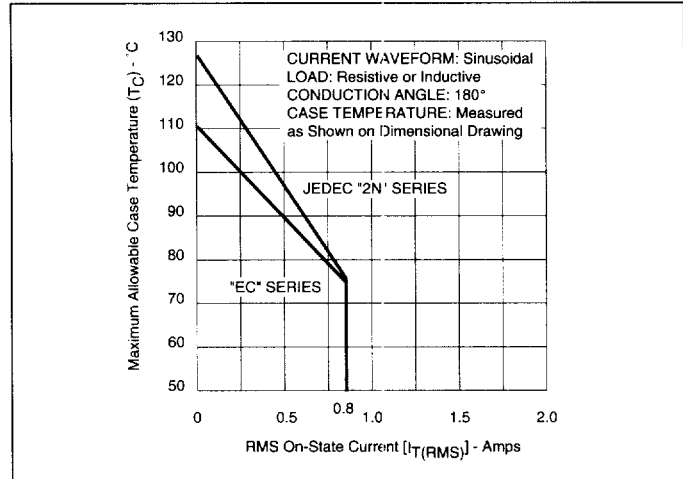
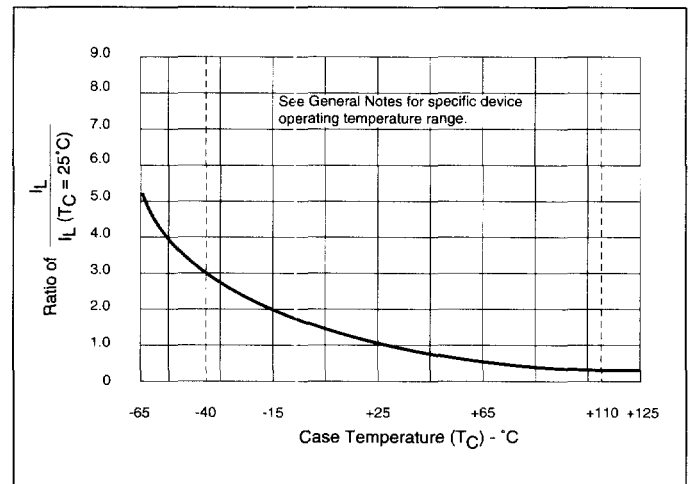

Figure 5.1 Maximum Allowable Case Temperature vs RMS On-State Current (JEDEC "2N" Series and "EC" Series)
Figure 5.18 Normalized DC Latching Current vs Case Temperature
- (1) See Figures 5.1 through 5.9 for current ratings at specified operating case temperatures.
- (12) See Figures 5.1 through 5.9 for maximum allowable case temperature at maximum rated current.
- (13) $I_{GT} = 500\mu A$ maximum for $T_C = -40^\circ C$ for T106 devices.
- (14) $I_H = 10mA$ maximum for $T_C = -65^\circ C$ for 2N5060 Series and 2N6564 Series devices.
- (15) $I_H = 6mA$ maximum for $T_C = -40^\circ C$ for T106 devices.
- (16) Pulse Width $\leq 10\mu s$.
- (17) $I_{GT} = 350\mu A$ maximum at $T_C = -65^\circ C$ for 2N5060 Series and 2N6564 Series devices.
- (18) Latching current can be higher than 20mA for higher I_{GT} types. Also latching current can be much higher at $-40^\circ C$. See Figure 5.18.
- (19) $T_C = T_J$ for test conditions in off-state.